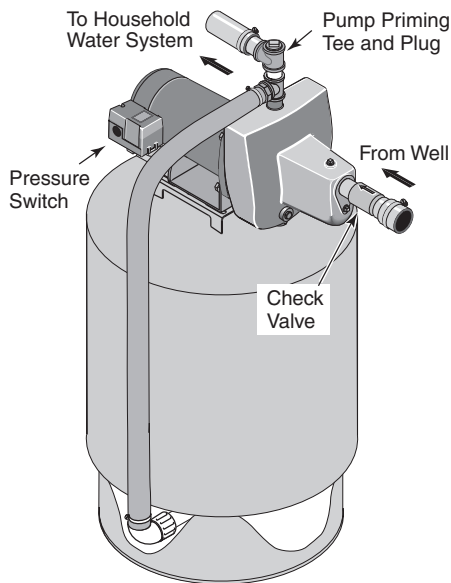

Figure 4: Pre-charged Tank Connections
PRE-CHARGE TANK CONNECTION (FIGURE 4)
1. Install two tees in the pump discharge port (see Figure 4). The pipe size must be at least as large as the discharge port.